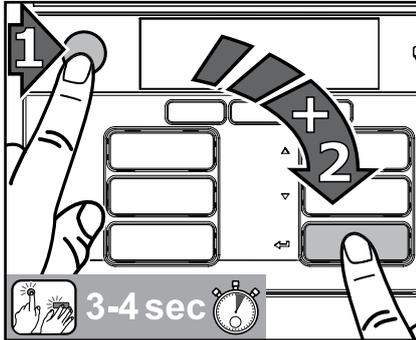

Fig. 42
1. Press first the STOP button and then the enter button ◀ and hold them pressed simultaneously for 3-4 seconds to enter the cleaning mode (fig. 42).